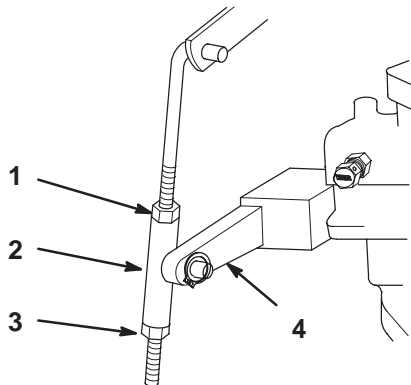

Figure 38
4. Loosen top and bottom jam nuts at pump arm neutral adjustment sleeve (Fig. 38).
5. Push down on Pump Arm until Sleeve contacts bottom nut (Fig. 38). Wheel should now be rotating slowly in reverse.
6. Turn bottom nut up slowly, moving sleeve and pump arm up, until wheel stops rotating (Fig. 38).
7. Turn top nut down against sleeve and tighten to lock the adjustment (Fig. 38).